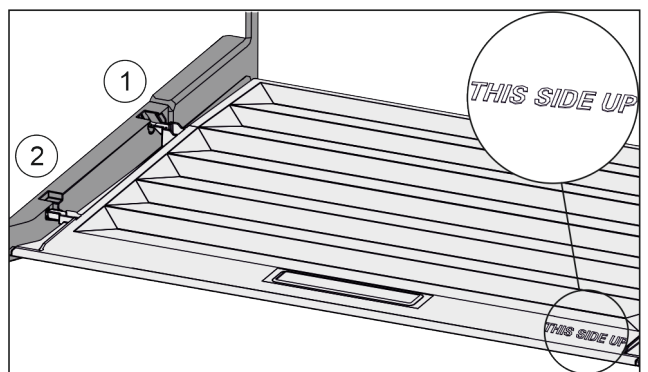

Fig. 39
- Insert the lip of the cover over the opening of the rear bracket Fig. 39 (1) and click into place Fig. 39 (2).